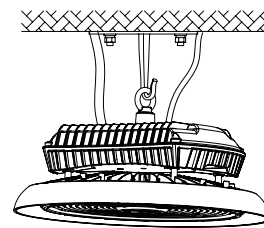

FIG.2
- 2 Suspend the fixture from a ceiling hook or chain, depicted in (Figure 2).